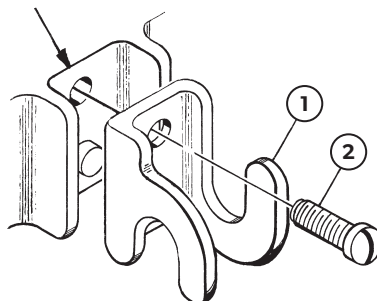

Figure 1. Shift cable retainer.
1. Locate mounting position for shift cable retainer (item 1) on starboard side of engine. Small screw hole should be upward (see figure 1).